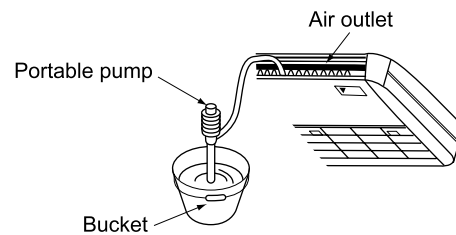

Fig. 25
(2) Confirm that smooth drainage is achieved after the piping work.
- Add 0.6 liter of water in the drain pan from the air outlet for confirming drainage. **(Refer to Fig. 25)**